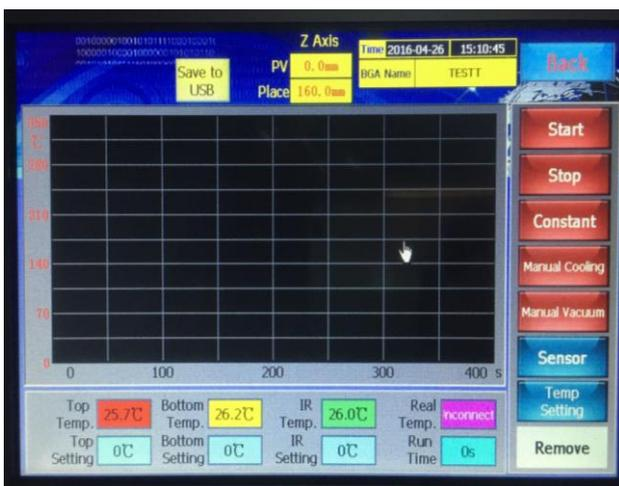

Figure 15: Remove model
**Apply the group data:** click this button will be pop up data (as figure15),shown the temperature are machine will be used .